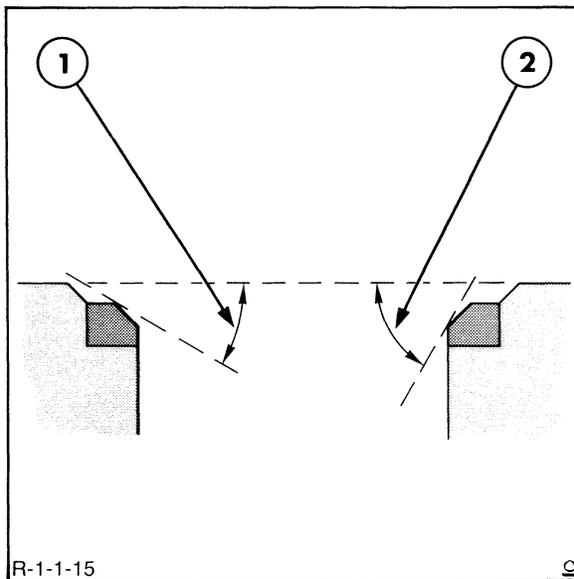

FIGURE 1-14
6. If the refaced seat exceeds this width, narrow the seat by removing stock from the top or bottom of the seat. If the seat measures less than this width, widen the seat. See Figure 1-14.
8. Lower the valve seat by removing stock from the top of the seat with a 30° grinding wheel, Figure 1-14. Raise the seat by removing stock from the bottom of the seat with a 60° grinding wheel.